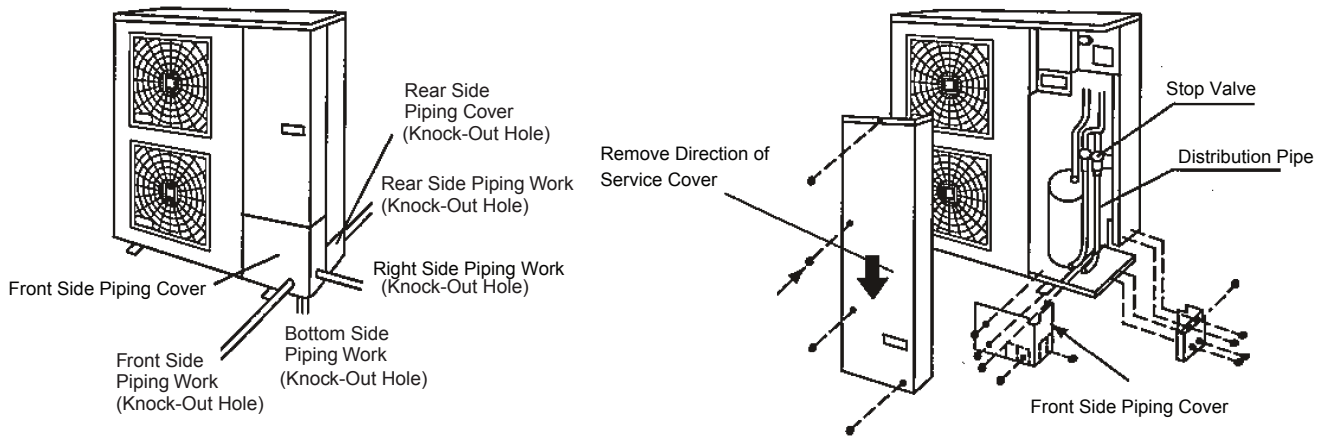

Fig. 5.1 Piping Direction
- (4) Pipes can be connected from 4 directions as shown Fig. 5.1. Make a knock-out hole in the front pipe cover or bottom base to pass through the hole. After removing the pipe cover from the unit, punch out the holes following the guide line with screwdriver and a hammer. Then, cut the edge of the holes and attach insulation (Field-Supplied) for cables and pipes protection.